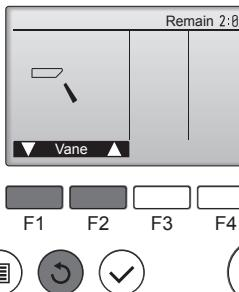

Fig. 7-4
- Press the [SELECT] button to display the Vane operation screen, and then press the [F1] and [F2] buttons to check the auto vane. (Fig. 7-4)